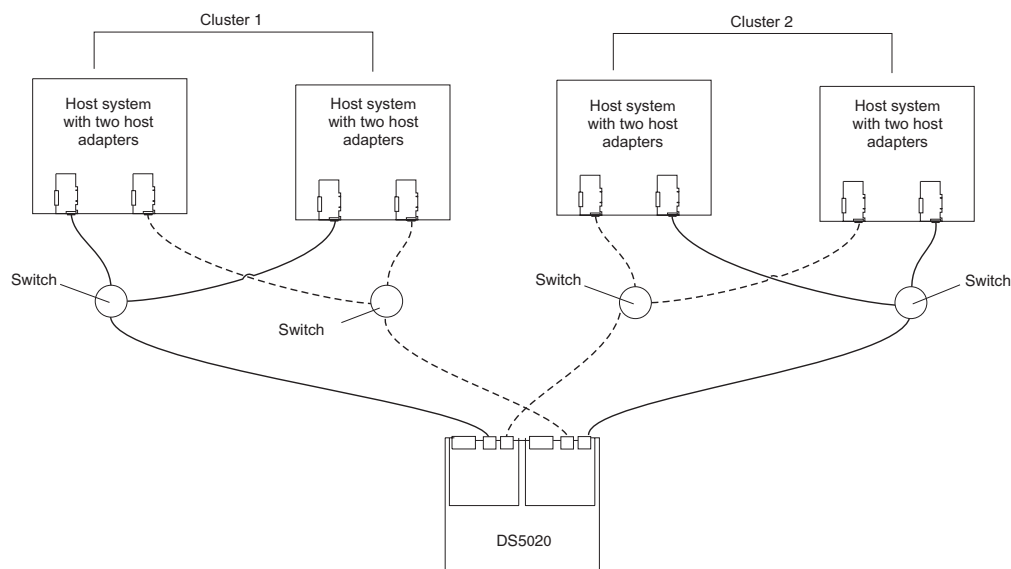

Figure 60. Example of a two-cluster configuration
- Two clusters, as shown in Figure 60 on page 90
Figure 60 on page 90 shows an example of a two-cluster configuration.